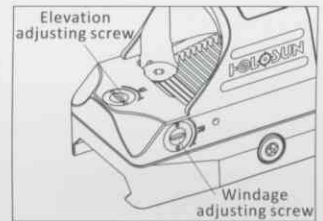

Fig 6
- 2) The Elevation adjustment is located on top of the tail section of the housing and the Windage adjustment is located on the right side of the housing. Adjustment can be performed by inserting the single tipped end of the included tool into the turret slot and rotating, See Fig 6.